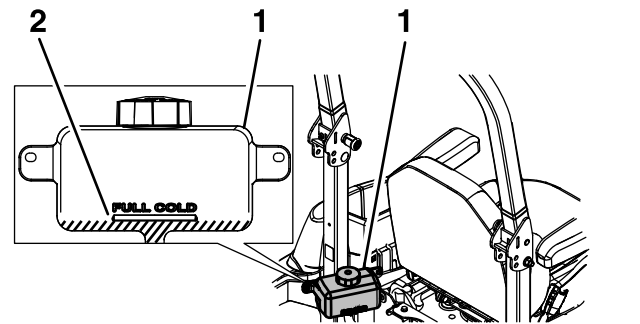

Figure 28
- Check expansion tank and if necessary add Exmark Premium Hydro Oil to the FULL COLD line (see Figure 28).